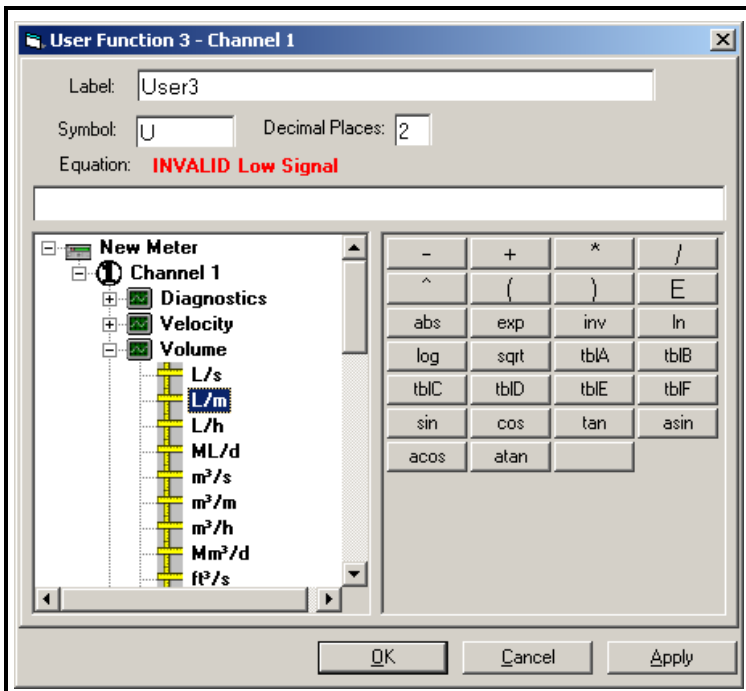

Figure 26: The User Function Window
2. Click on “*User Functions*,” and then double-click on the desired function (1 to 4). The right side of the screen appears similar to Figure 26 below.